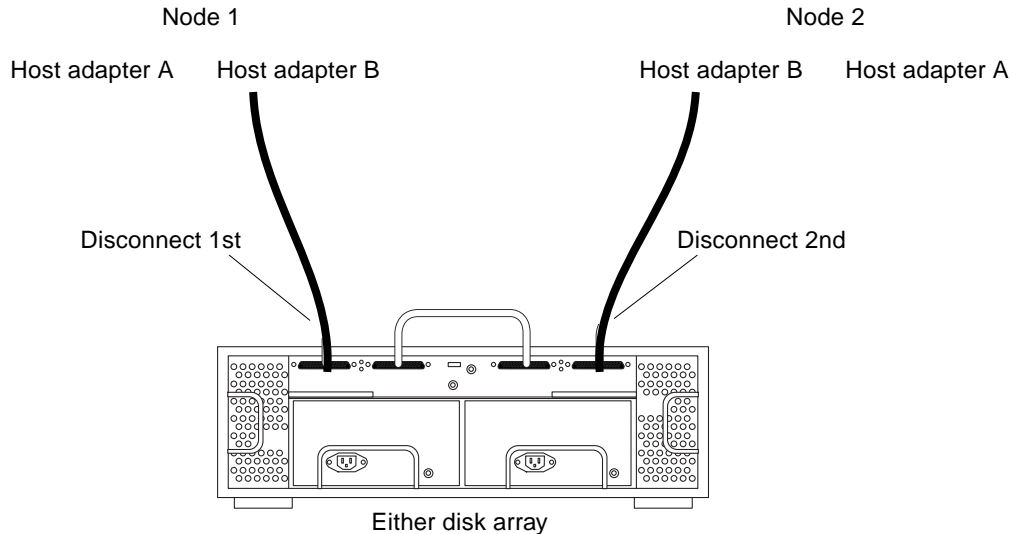

FIGURE 5-5 Disconnecting the SCSI cables
2. **Disconnect the SCSI cables from the StorEdge D1000 disk array, removing them in the order that is shown in FIGURE 5-5.**